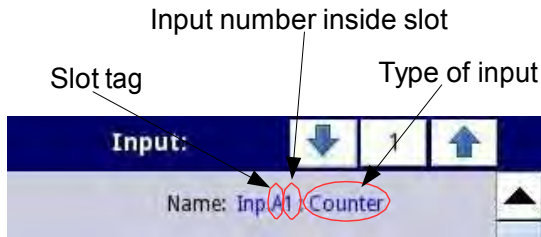

Fig. 7.75. Description of Name parameter in Built-in inputs menu
Common parameter for all Built-in inputs is Name – each inputs has its own unique name and it can not be changed – description of this parameter see Fig. 7.75.
- Name - each built-in input already has a name given by the device and user cannot change it, description of the Name parameter see Fig. 7.75,
- Name – each built-in input already has a name given by the device and user cannot change it, for description of Name parameter see Fig. 7.75,
- Name – each built-in input already has a name given by the device and user cannot change it, for description of Name parameter see Fig. 7.75.